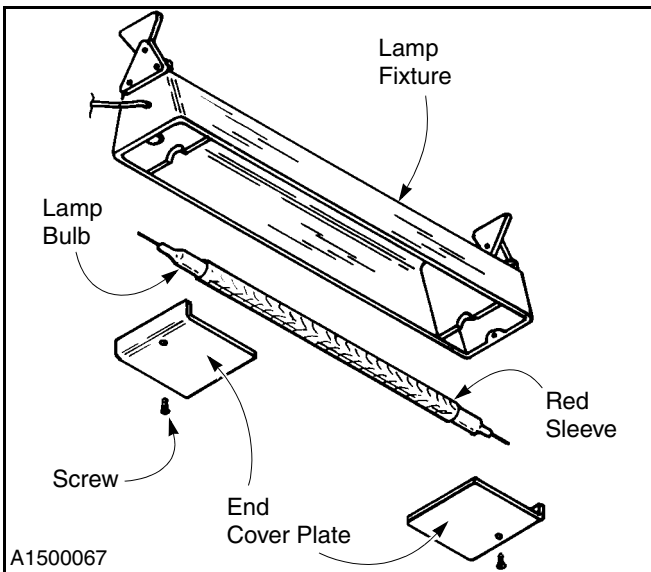

Figure 74
2. Remove the end cover plate from each end of the lamp fixture. Retain all hardware. (See Figure 74.)